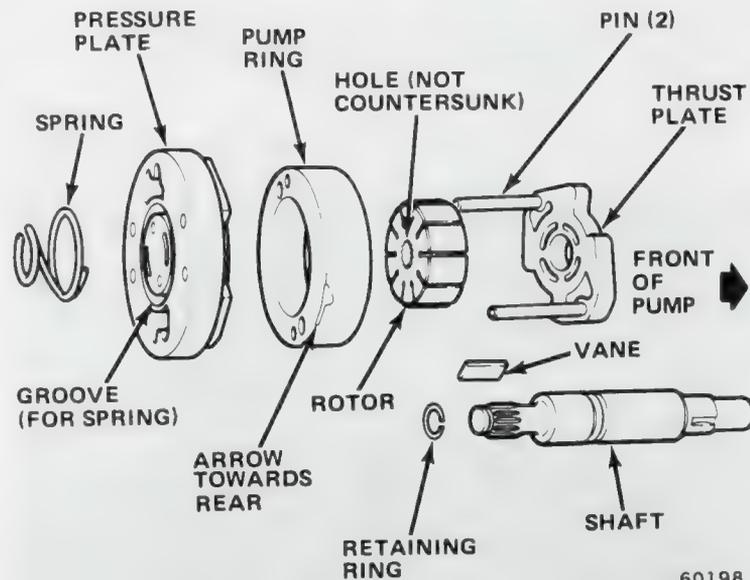

Fig. 2K-121 Pump Shaft Assembly Sequence
(9) Lubricate outside diameter and chamfered edge of pressure plate with petroleum jelly.
(10) Install plate on dowel pins with plate spring groove facing upward.
(11) Place large socket on top of pressure plate and press plate downward about 1/16 inch (1.5 mm) to seat plate.
(12) Lubricate end plate seal with petroleum jelly and install in second groove of pump body bore (fig. 2K-120).